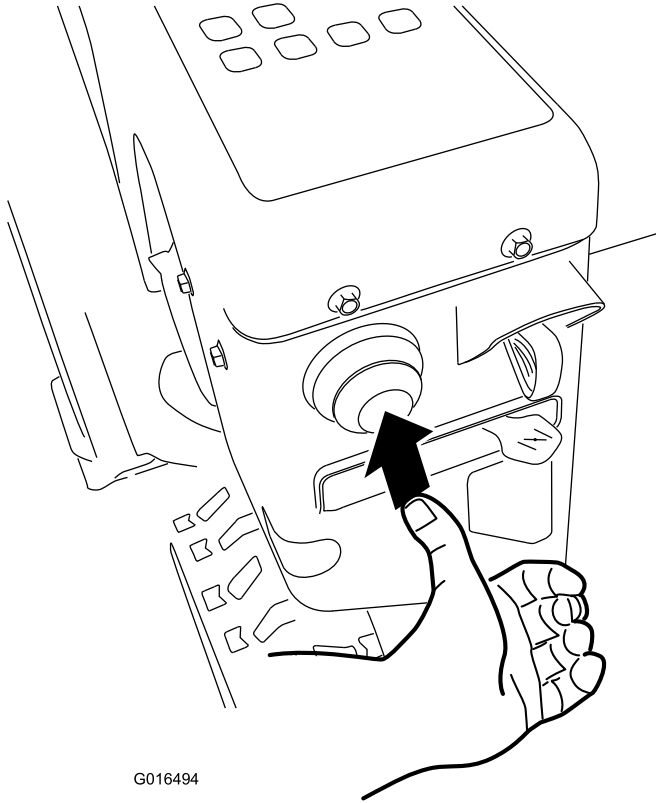

**Figure 27**
3. Insert the ignition key all the way in (Figure 27).